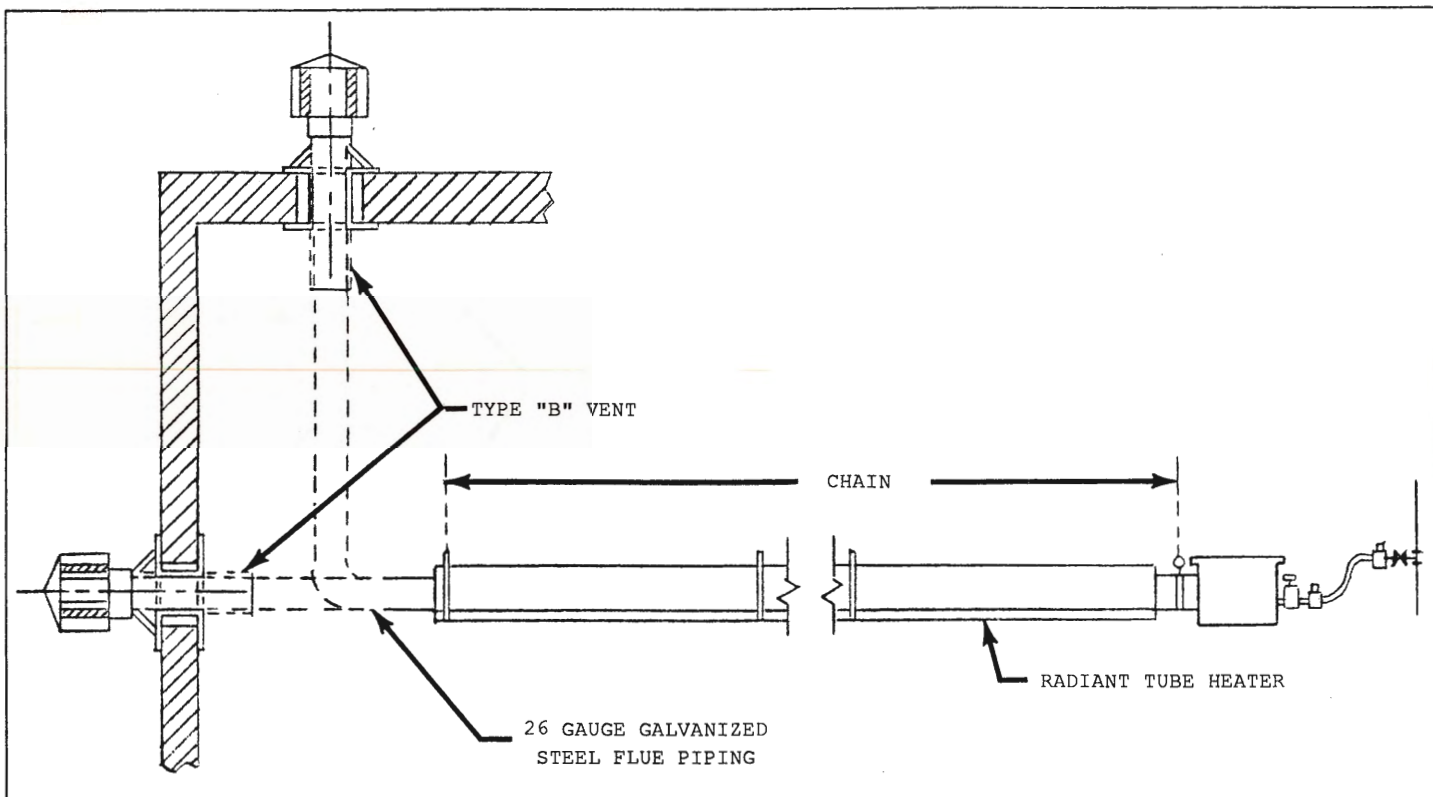

Figure 2-15
3. Stacks may consist of a 10-ft. section of radiant tubing if desired. A minimum of 26 GA. galvanized steel pipe is required. Total stack length from the heater to the exit should not exceed 35 ft. on the DTHS20 models; 20 ft. on the DTHS40 and DTHS60 models. Total stack length for DTHS40-125 and DTHS40-150 models is 40 ft. The portion of the stack that passes through combustible material of the building wall or roof must be dual-insulated flue pipe (See Figure 2-15 and Table 2-1).